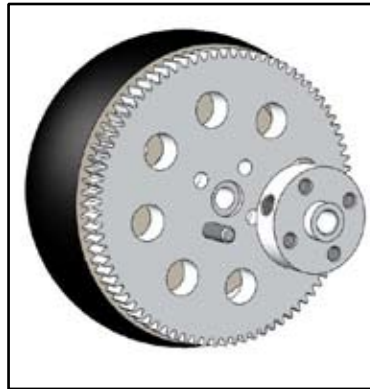

Figure A7
4) Drop an 80-tooth gear over the screw end, followed by a set screw axle hub (Figure A7). Thread the screw through all four parts. Repeat this with the other three screws.